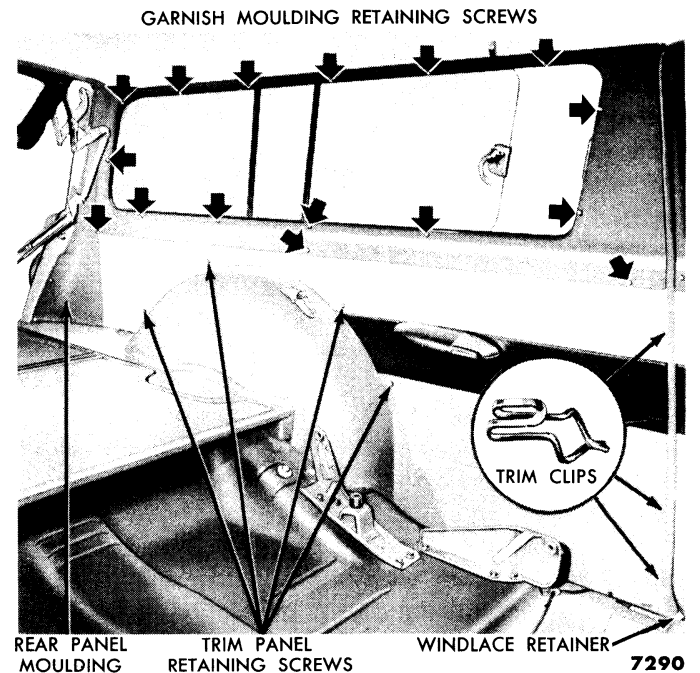

Fig. 8—Station Wagon Quarter Trim
(4) **STATION WAGON.** Remove the garnish moulding retaining screws, then remove the garnish moulding (fig. 8). Remove the six retaining screws from the lower rear panel moulding, then remove the moulding. Remove the four trim panel retaining screws. Unfasten the four trim clips at the forward edge of the trim panel, disengage the windlace from the retainer, and remove the quarter trim panel.
To install, place the trim panel in position, engage the windlace in the retainer, and fasten the four trim clips at the forward edge of the panel (fig. 8). Install the four trim panel retaining screws. Install the lower rear panel moulding and secure it in place with six retaining screws. Install the garnish moulding and secure it in place with the retaining screws.